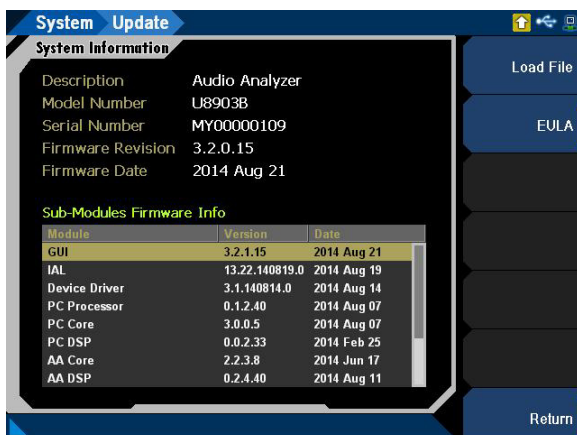

Figure 1-6 System > Update menu page
- 4 From the System menu page, press the **Update** softkey. The Update menu page is displayed as shown in **Figure 1-6**.